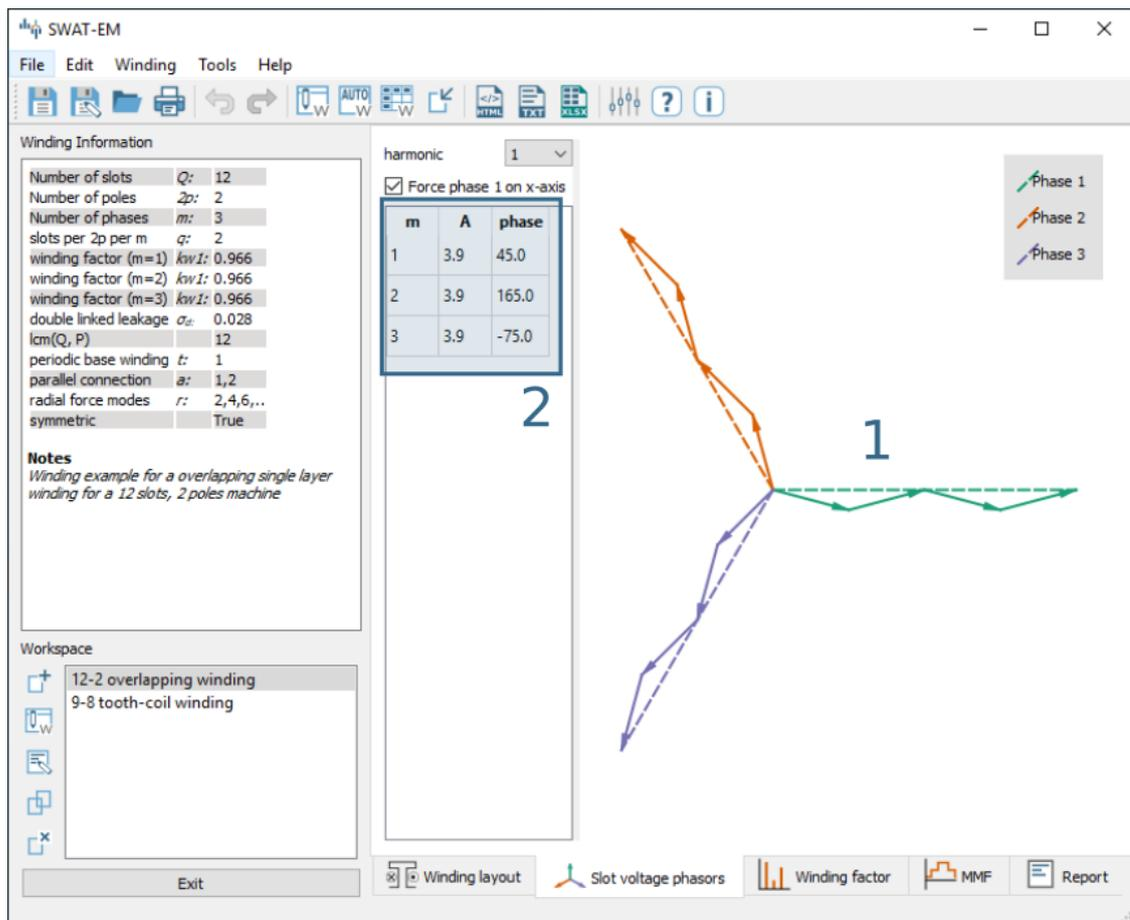
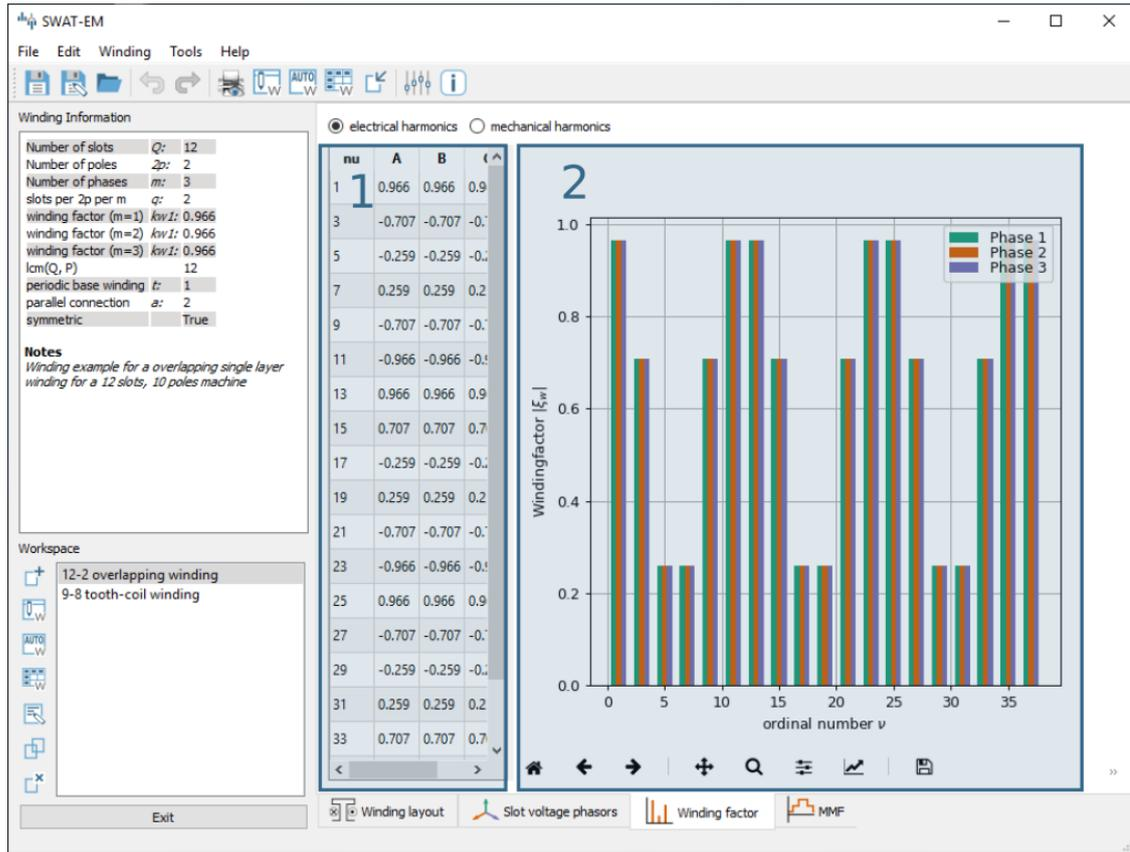

Figure 4.2: Phasors plot
Figure 4.3: Winding factor plot
All phasors of a phase are getting grouped a vectorial summed up which is shown as (1) in figure 4.2. The dotted line represents the vectorial sum. The amplitude and the phase of this is shown in (2). Options:
It can be seen in figure 4.2 that the winding factor gets the maximum value of 1 if all phasors of a phase have the same phase angle. Typically the winding factor is specified with a sign. This indicates the direction of the magnetic field wave, that is generated by the winding in the airgap. SWAT-EM determines the sign by generating the phasors plot for every harmonic number and detecting the sequence of the phases. Figure 4.3 shows the values in (1) as a table and the absolute values as a bar plot in (2). Both can be displayed with respect to the mechanical  $\nu$  or the electrical  $\nu_{el}$  ordinal number by the radio buttons on the top of the table.